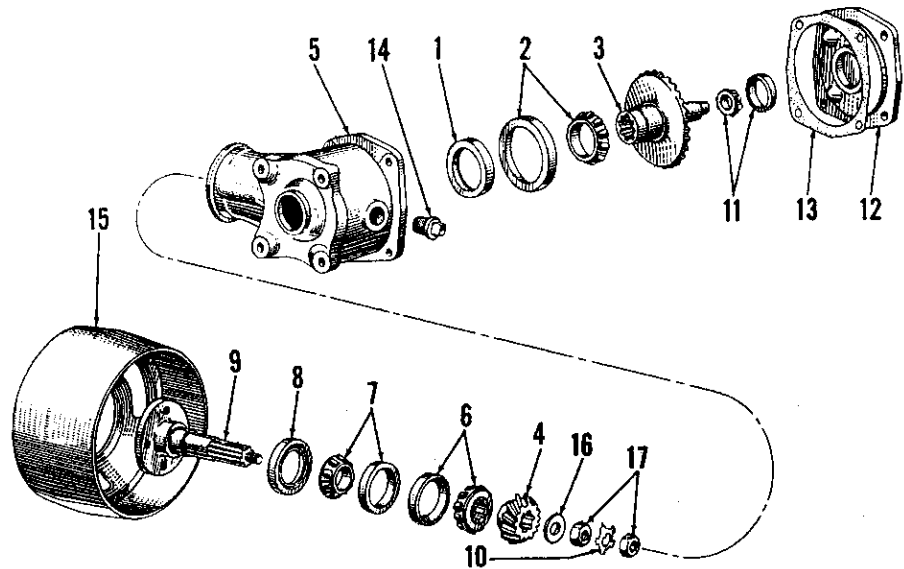

Fig. 366—Exploded view of belt pulley assembly available for models 2000 and 3000.
337. Refer to exploded view of unit in Fig. 366 and proceed as follows: Drain lubricant and remove cover (12). Straighten tabs on washer (10) and remove nuts (17), then remove shaft (9), outer bearing (7) and seal (8) from housing. Withdraw driven gear (4) and bearing (6) from housing. The drive gear (3) can now be removed. To renew seal (1), remove bearing (2) cup and drive seal to inside of housing. Install new seal with spring loaded lip to inside. To renew oil seal (8), pull bearing (7) cone and roller from shaft (9) and remove seal. Fit new seal over shaft